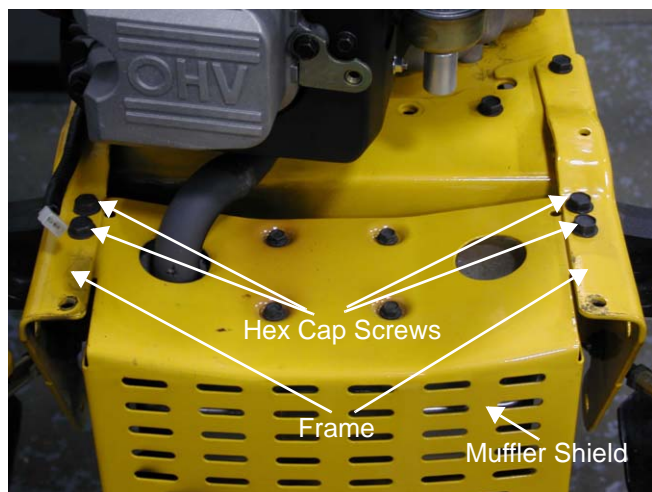

Figure 9.2
9.2. Remove the self tapping hex cap screws securing the front frame assembly to the muffler shield and muffler using a 1/2" socket. See Figure 9.2.